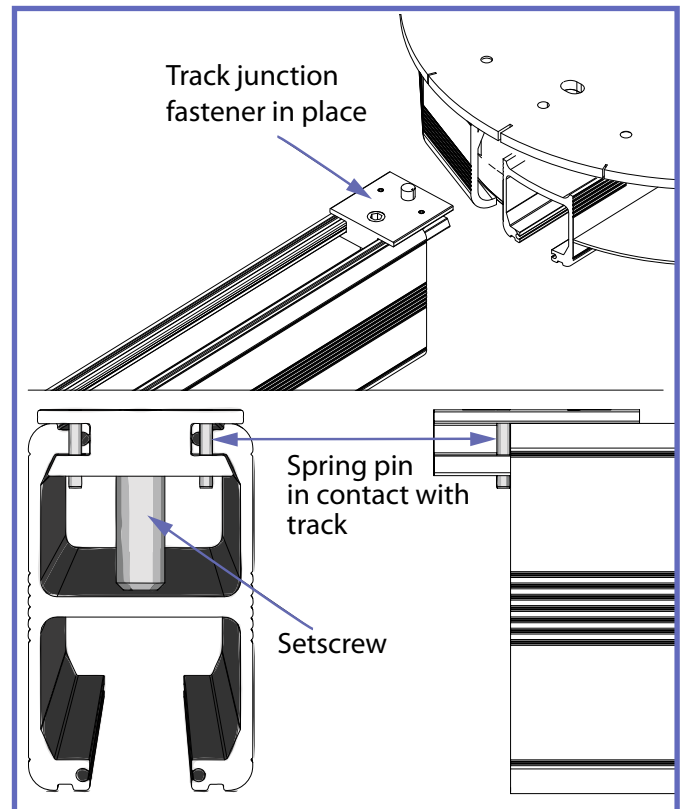

Fig.22
- 5) Attach the tracks to the turntable using the previously installed track fasteners, see Fig.22. Use a 13 mm socket to screw bolt to 20 N·m (15 lbf·ft). The turntable must be level in all directions.